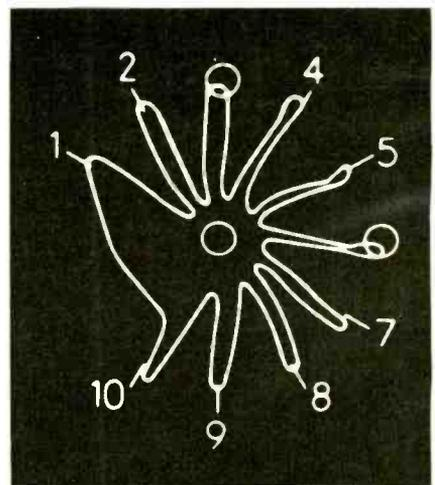

FIG. 11—QUADRATURE VECTORGRAM. (Courtesy Sencore)
**Procedure:** Adjust vectorscope controls to obtain a vectorgram display such as shown in Fig. 11.
**Evaluation:** A normal quadrature vectorgram is circular. We observe in the example of Fig. 11 that the petals do not extend all the way to the center of the pattern. This indicates that the chroma-channel bandwidth is somewhat subnormal. However, in practice, we must take standard tolerances into account. If the bandwidth is definitely subnormal, we start troubleshooting by checking the alignment of the chroma band-